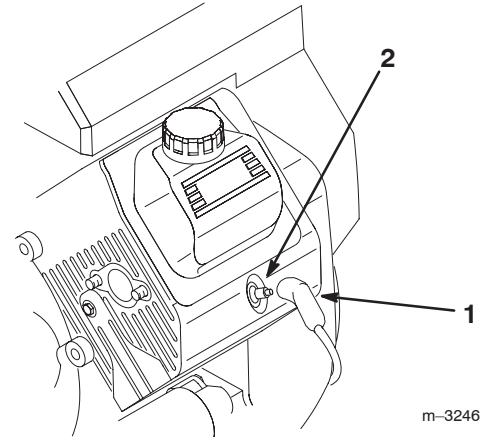

Figure 54
- Pull the wires off the spark plugs (Fig. 54).
3. Push the wires onto the spark plugs (Fig. 54).